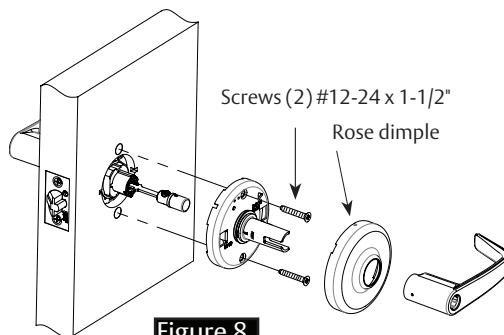

Figure 8
4. Orient dimples on side of rose with openings on side of spring housing assembly. See Figure 8.